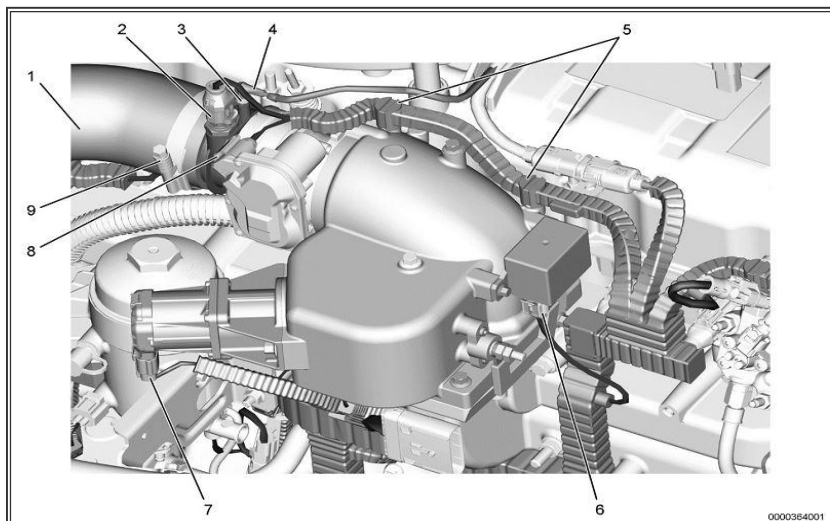
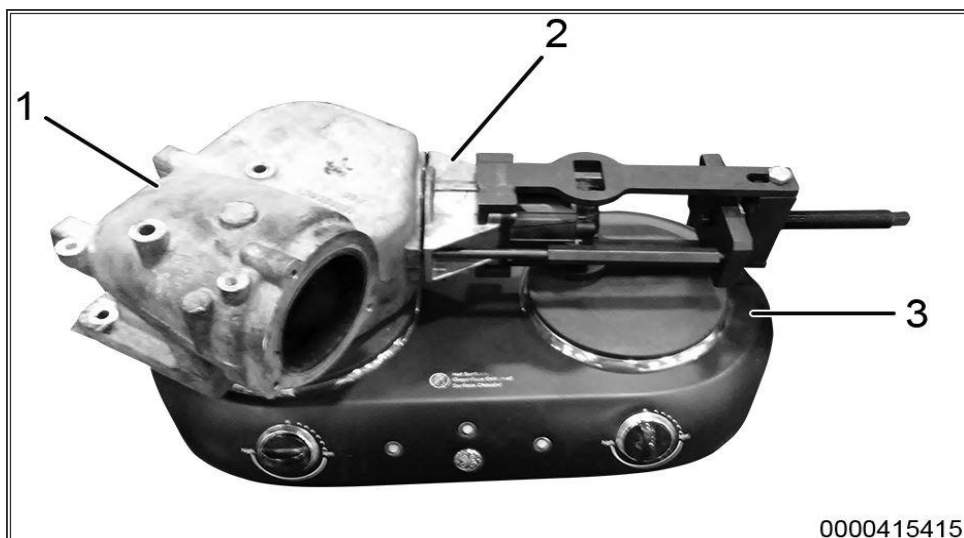

Figure 1: Charge Air Cooler (CAC) Inlet Tube and Engine Harness Connectors
Figure 5: Air duct and EGR mixer assembly- Heat Application
7. Access and loosen CAC inlet tube clamp (Figure 1, Item 9).
8. Remove CAC inlet tube (Figure 1, Item 1).
9. Disengage lock on IAT sensor connector (Figure 1, Item 2). Push release tab and disconnect connector.
10. Disengage lock on ETV sensor connector (Figure 1, Item 8). Push release tab and disconnect connector.
11. Remove and discard tie straps (Figure 1, Item 5) securing engine harness.
12. Disengage lock on EGR control valve connector (Figure 1, Item 7). Push release tab and disconnect connector.
13. Remove and discard clamp (Figure 1, Item 3). Disconnect vacuum line connector (Figure 1, Item 4) from inlet tube adapter.
14. Disconnect IAH harness connector (Figure 1, Item 6).
28. Place air duct and EGR mixer assembly (Figure 5, item 1) onto hot plate (Figure 1, item 3). Position electronic actuator (Figure 1, item 2) away from heat source.